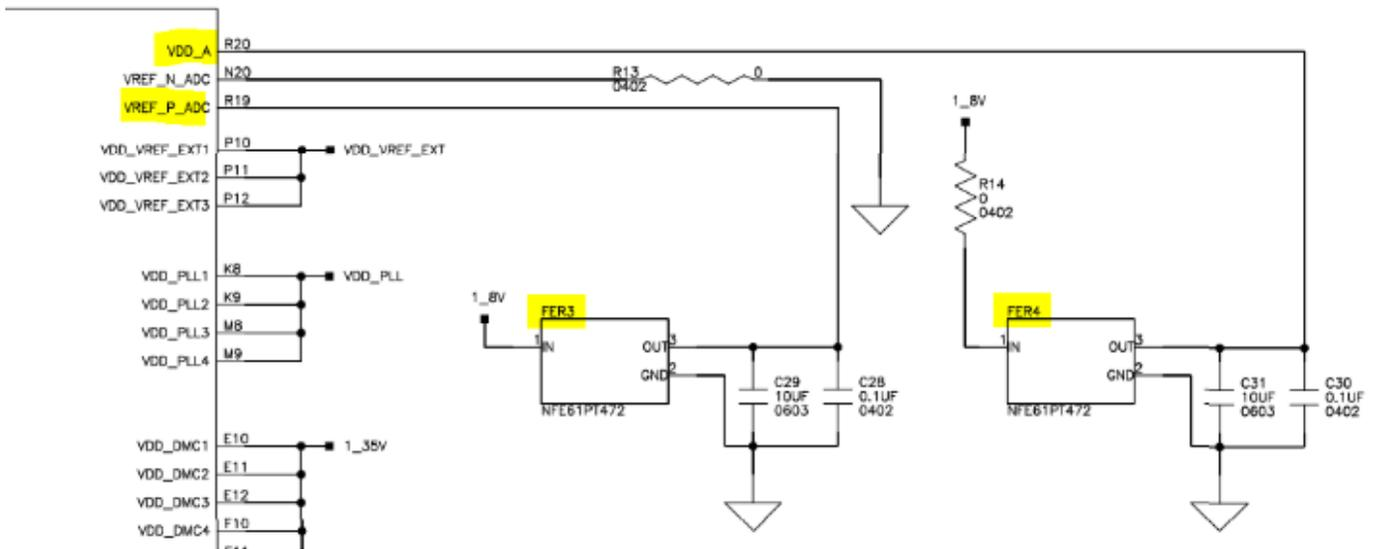

Figure 1: Reference Filter Circuit
- Implement a filter circuit on the `VREF_P_ADC` and `VDD_A` pins as shown in Figure 1, the reference schematic of EV-SC594-SOM[4].